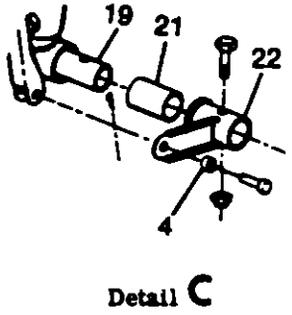

Figure 10-2. Rudder Pedals Installation
10-5. REMOVAL AND INSTALLATION. (See figure 10-2.)
- d. Disconnect steering bungee from rudder bar arm (Index 16, figure 10-2).